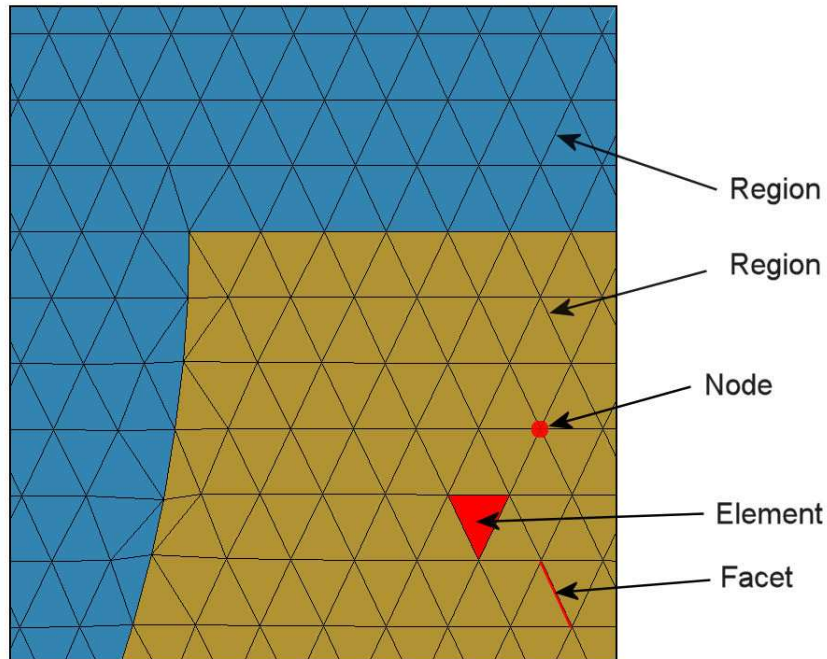

Figure 2: Conformal triangular mesh – definition of terms.
The basis of the finite-element approach is to divide the full solution volume into a number of small volumes, or *elements*. Here, the term *small* indicates that element dimensions are much less than the scale length for variations of field quantities. The division of the volume is called the *computational mesh*. Figure 2 shows the type of mesh used for the two dimensional solutions of **PerMag**. The figure defines three terms that will be used throughout this manual:
The elements in Fig. 2 have triangular cross-sections. In a planar solution, the cross-section lies in the x - y plane and the elements extend an infinite distance in the z direction. In a cylindrical solution, an element is a figure of revolution about the axis with a triangular cross-section in the z - r plane.
The mesh in Fig. 2 has the important property of *conformality*. The term means that the triangles have been specially shaped to conform to the boundaries between materials (*regions*).
2. **Mesh** analyzes the boundary specifications and automatically generates a set of conformal triangles such as those of Fig. 2. The program creates an output file that lists the locations of nodes and the identities of elements.